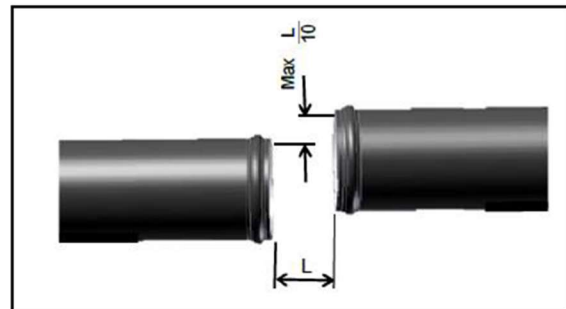

Figure 2
4.3 Tubing / Piping alignment. (see figure 2)